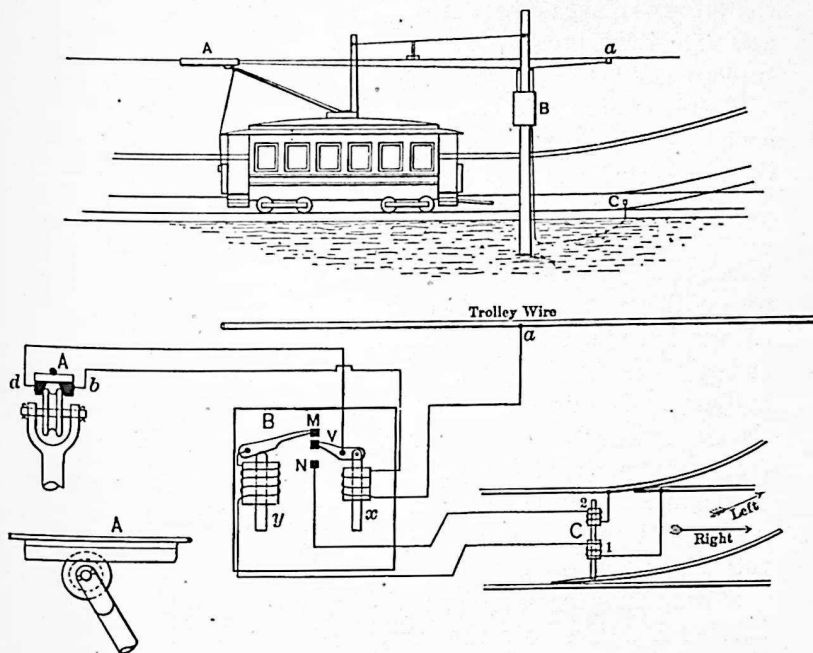

FIG. 211. Illustration and diagram of an electric track switch.
**125. Electric Track-switches.** In Fig. 211 is shown the Cheatham track switch. It consists primarily of three elements: the pan, *A*, attached to the trolley wire about 30 feet from the switch; the pole box, *B*, containing the electromagnet (*x*) which makes the proper electric contact; and the track box, *C*, containing the electromagnets (1) and (2), which operate the track switch.